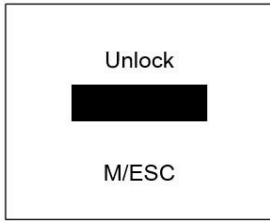

Figure 7-1
- For the interface shown in Figure 7-1, press “ESC”, “ENTER”, “UP”, and “DOWN” corresponding to the text that appears at the bottom of the screen to unlock it.